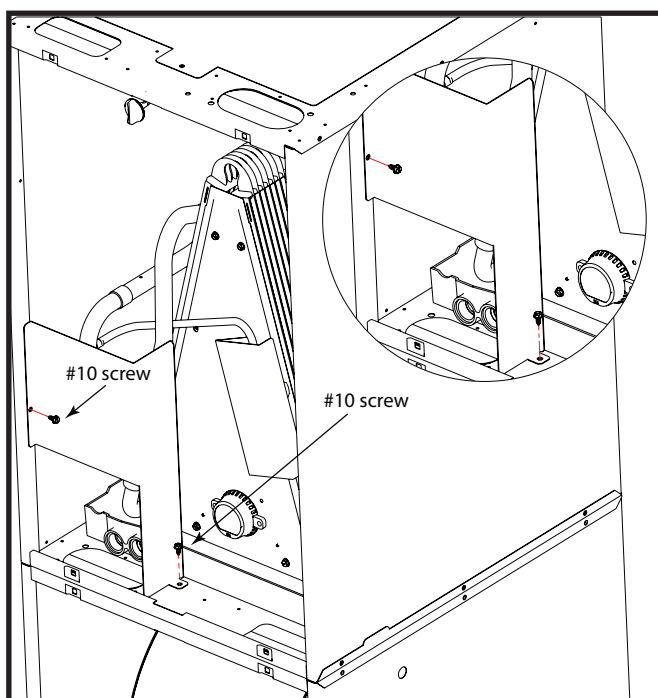

Figure 3. Left Baffle Fastened with Screws
2. Install the left baffle as shown in Figure 3 and secure with 2 of the supplied fasteners.